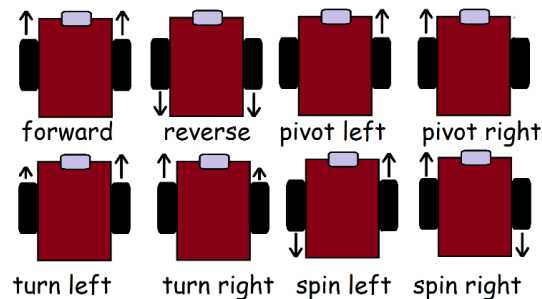

Figure 7: Robot Motion Summary
8. Figure 7 gives an example of the robot motions.